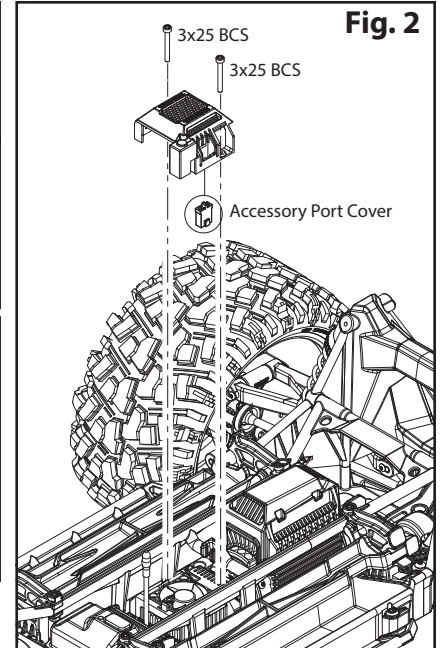

Fig. 2
2. Remove the 3x25mm button-head screws (2) from the electronic speed control (ESC) to remove the cooling fan cover (Fig. 2).
3. Remove the accessory port cover (Fig. 2); then, reinstall the cooling fan cover on the ESC using the 3x25mm button-head screws. Be careful not to pinch the ESC wires during reinstallation.